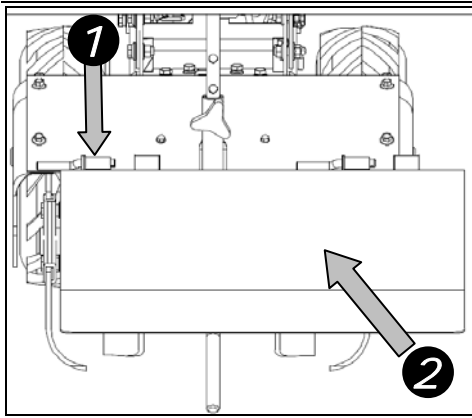

Fig.8
**STEP6 Attach the rear flappy cover (Fig.8~9)**
1. Put the rubber cover ①(Fig.8)
2. Attach the rear flappy cover ②(Fig.8) with top cover by the pivot;